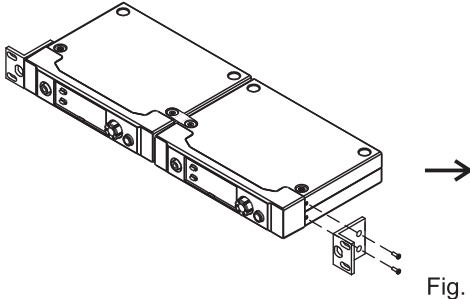

Fig. 15
- (C) Install and fasten with receiver rackmount kit, Fig. 15.
- (D) Optional FB-72 rackmount kit.